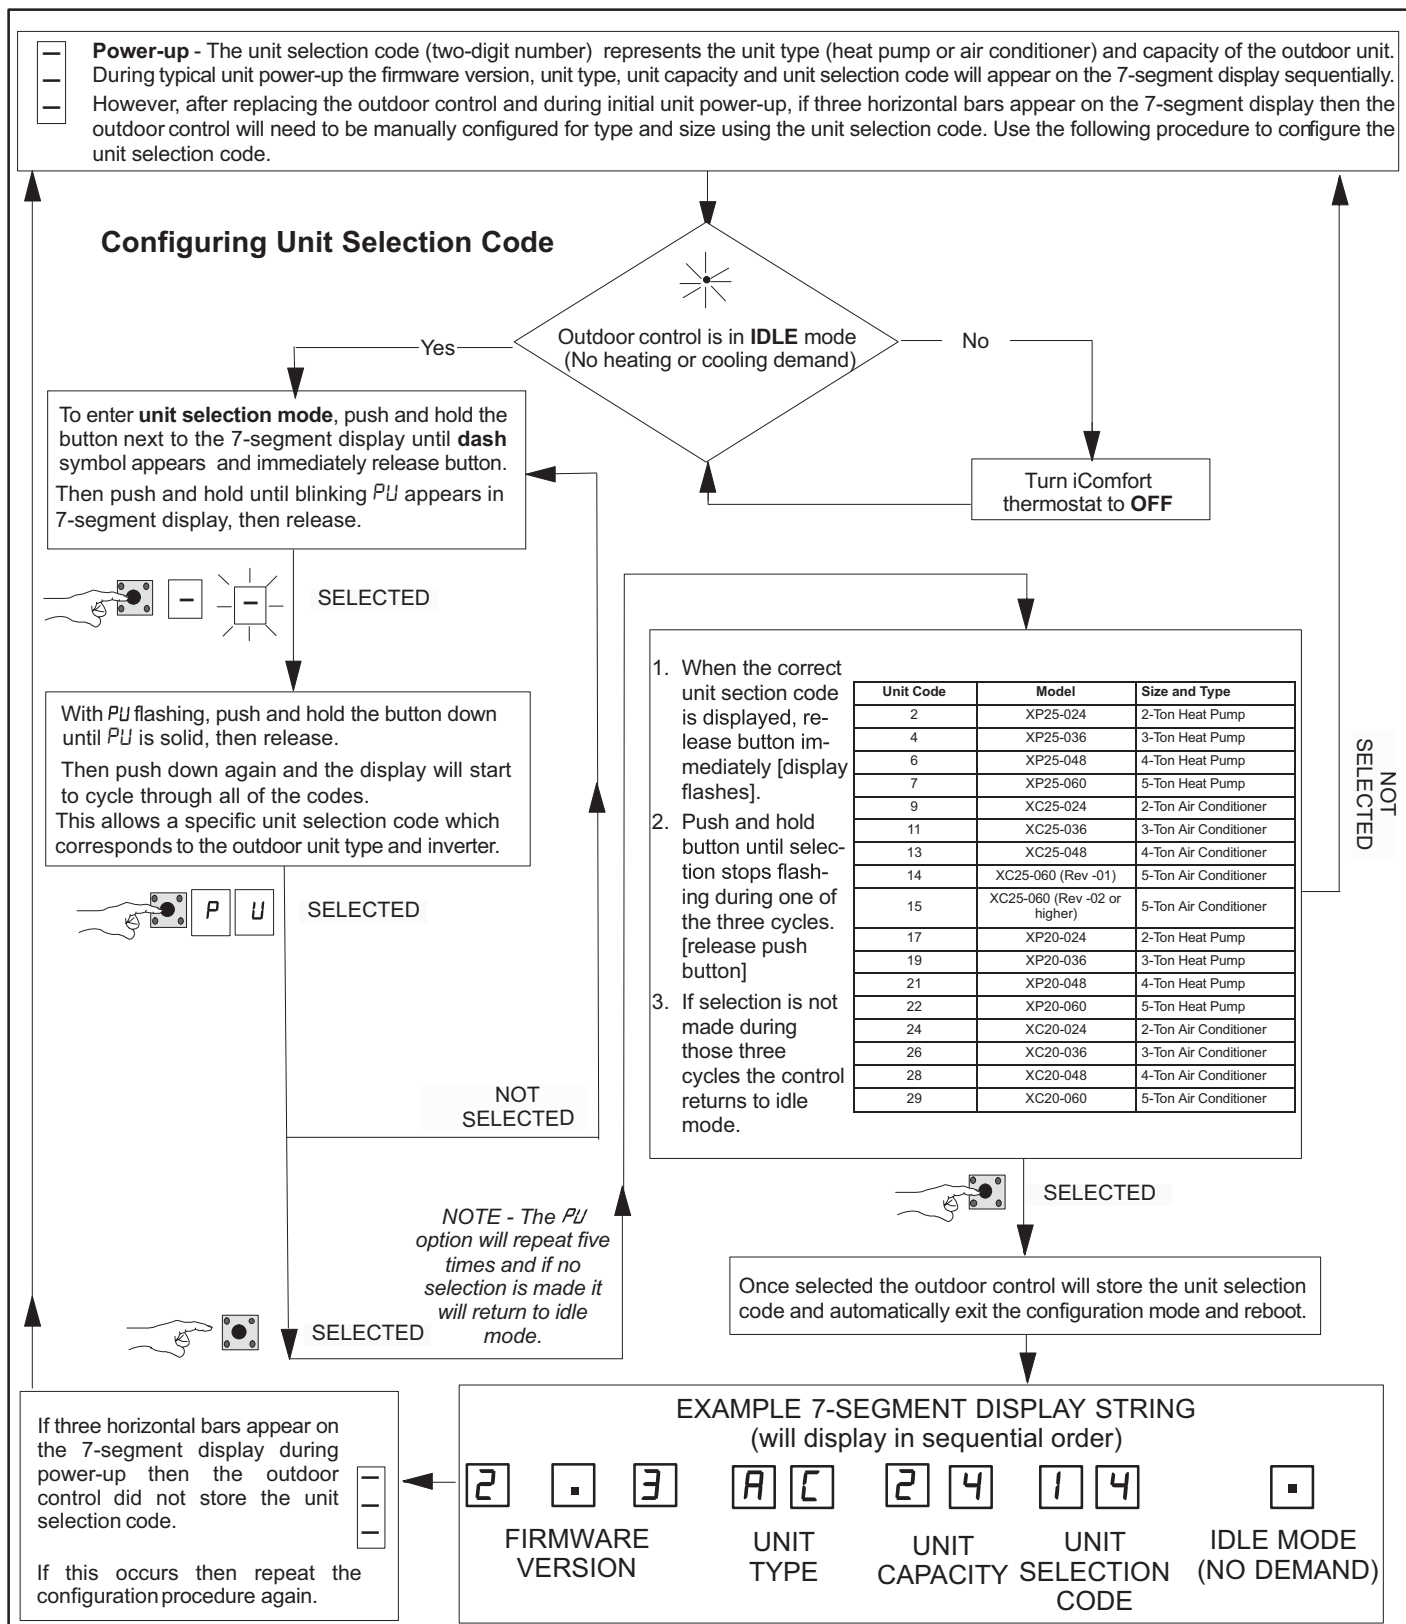

FIGURE 1. Configuring Unit Selection Code
- 11 - Use the procedure outlined in Figure 1 to configure the iComfort outdoor control.